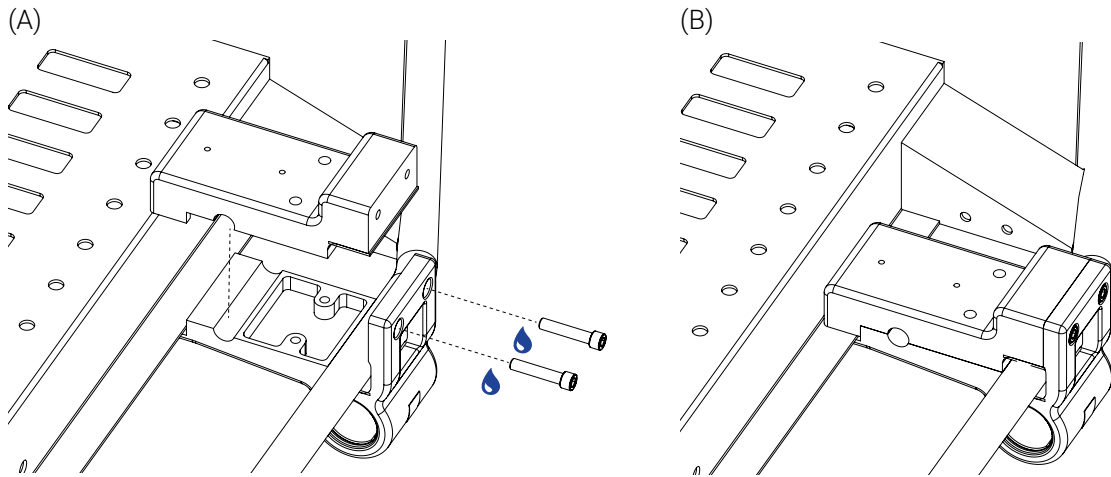

Figure 22: Installing the clamp block on the stretcher frame
5. Place and align the top part of the clamp block under the stretcher frame and the bottom part of the clamp block over the stretcher frame then partially tighten, using the two (2) screws with medium strength thread lock adhesive, and a 3/16 in. hex key (Figure 22). The screws will be tightened at a later step.